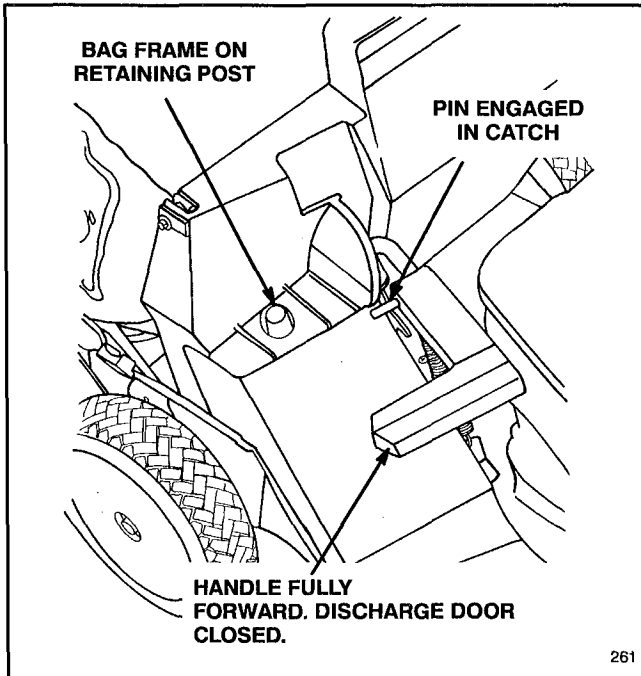

Figure 16
2. Ensure discharge door handle is fully forward and pin is engaged in catch (Fig. 16).
3. INSTALLING BAG—Slide hole in bag frame onto retaining post on discharge tunnel (Fig. 16). Set rear of bag frame onto lower handle.
5. **EMPTYING BAG**—Stop engine and wait for all moving parts to stop. Raise discharge door handle and move it forward to engage the locking pin with catch (Fig. 16). Grasp handles at front and rear of bag and lift bag off mower. Gradually tip bag forward to empty clippings.